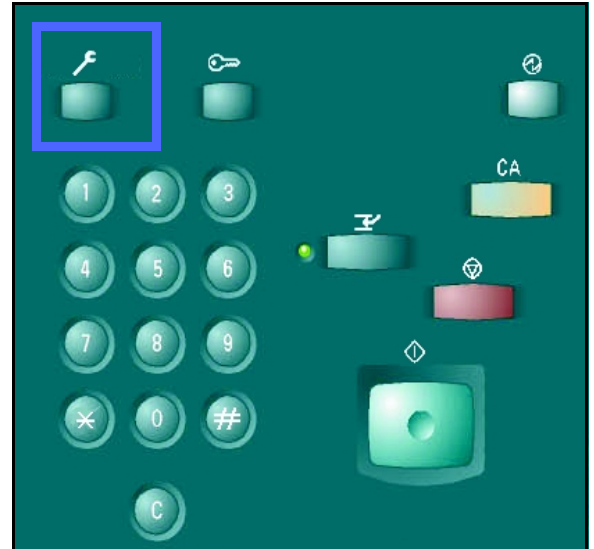

Figure 1: Administration button
In order to enter the Administration mode, press the **Administration** button, Figure 1. This button is located above the numeric keypad.
- 1 If you are not already in the Administration mode, enter it now by pressing the **Administration** button, Figure 1. This button is located above the numeric keypad.